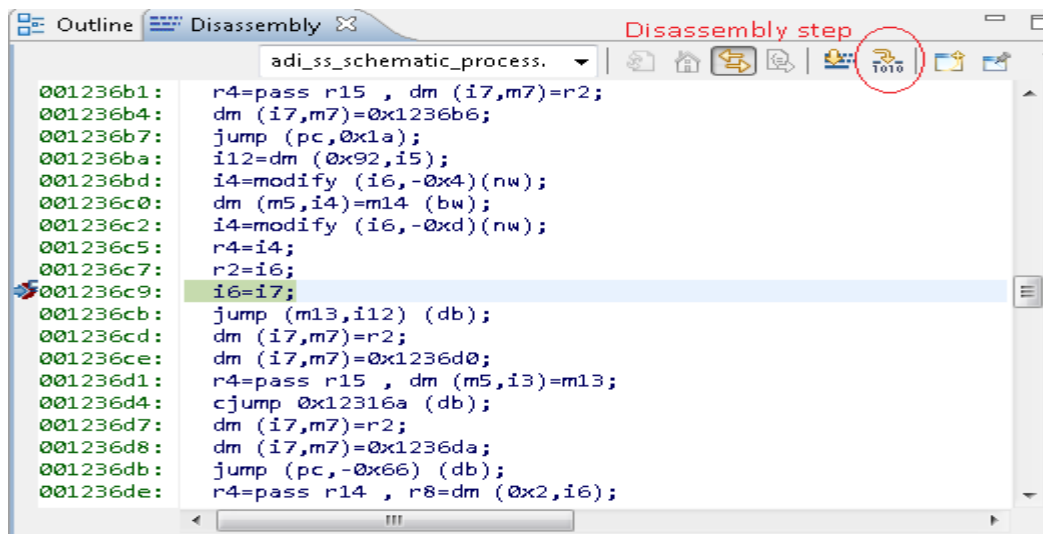

Figure 35: Core Halts at Breakpoint
24. Observe that the target halts at the breakpoint set as shown in Figure 35.